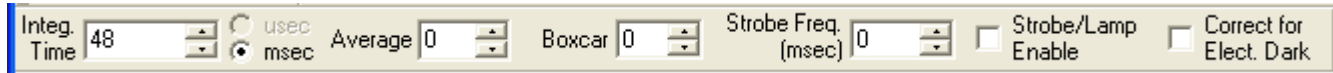

Figure B-1: The Acquisition Parameters Toolbar.
6. Enter the desired delay value in the Strobe Freq. box (See Figure B-1 on the following page).
- Enable Single Strobe output by checking the Strobe Enable check box (See Figure B-1 on the following page).